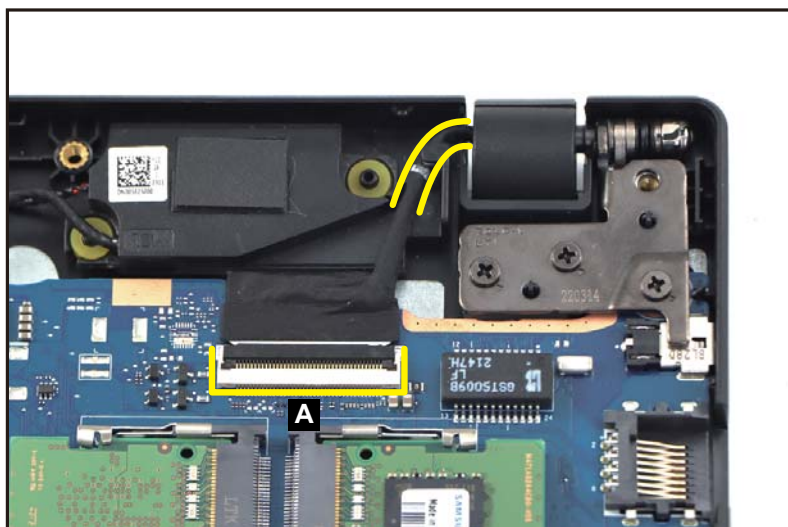

Figure 1-19. LCD Module Removal
1. Disconnect the LCD cable from the mainboard connector (A) (Figure 1-19).
2. Unroute the LCD cable from the cable guides as shown in Figure 1-19.